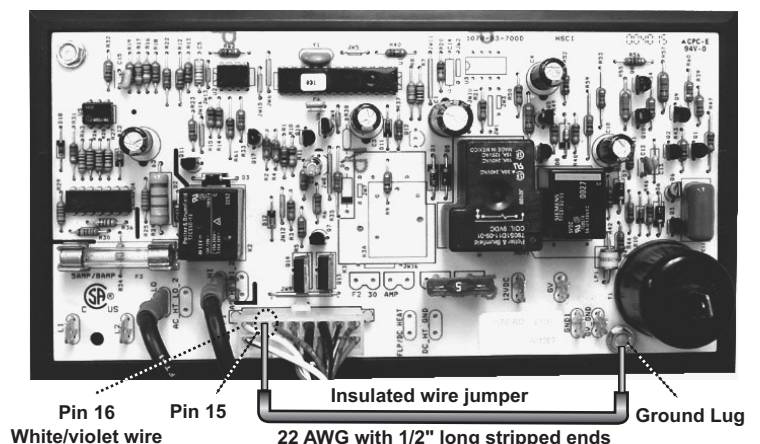

Figure 12. Resetting the power board
6. Locate Pin 15 on 16 pin connector (P1). Pin 15 is the empty socket to the right of the white/violet wire on the top row. See Figure 12.
7. Using an insulated jumper wire, short Pin 15 to the power board ground lug for 10 - 15 seconds. A click sound will indicate when the controls are reset. See Figure 12.